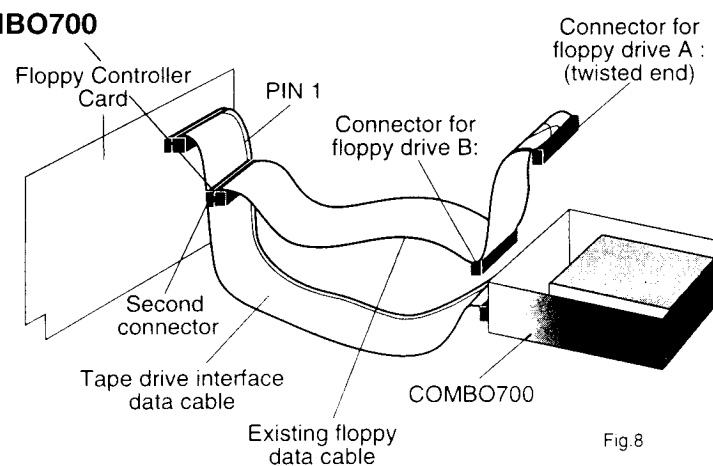

Fig.8
2. To configure as your B: drive, connect the built-in floppy drive of your COMBO700 to Connector B: on the existing floppy data cable. Connector B: is the middle connector of the existing floppy data cable as shown in Figure 8.